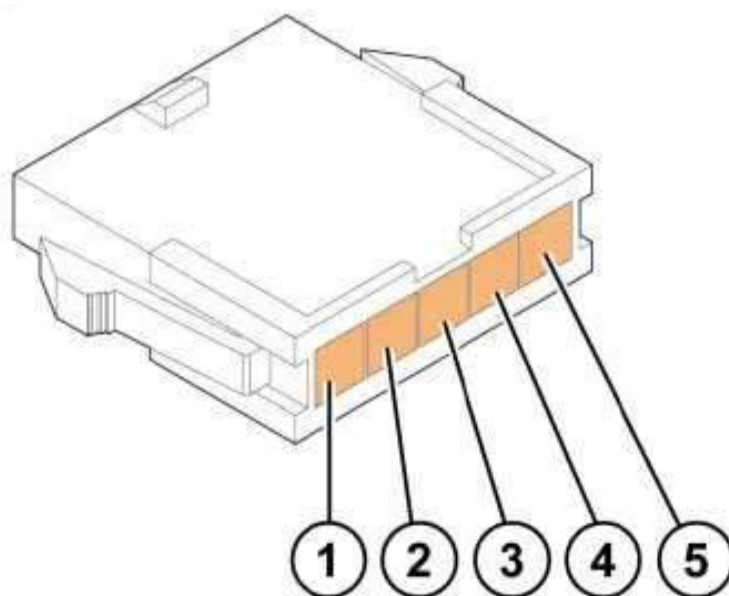

Figure 94. Controller for lifting and lowering pin locations
1. Connect the lever wires to the connector. The pin locations from 1 to 3 are marked on the connector with lines and help you in determining the rest of the pin locations. Details of the controller wires and their pin locations are available in Figure 94 and Table 11 below.